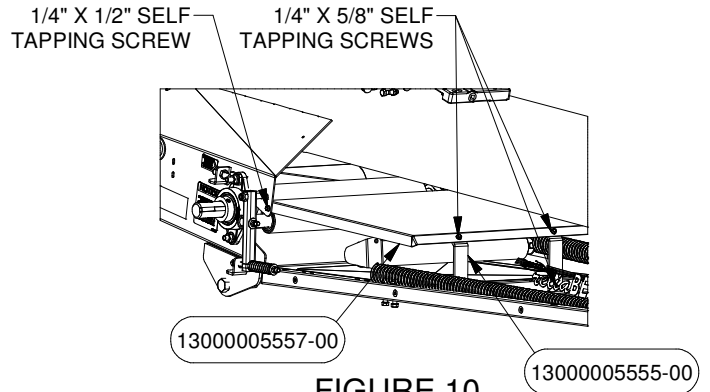

FIGURE 10
21. Attach the Top Guard PN# 5557 to the Intake using the Brackets PN# 5555 and fasten it using Self Tapping Screws that can be found in Bolt Bag PN# 5830 (See Figure 10).